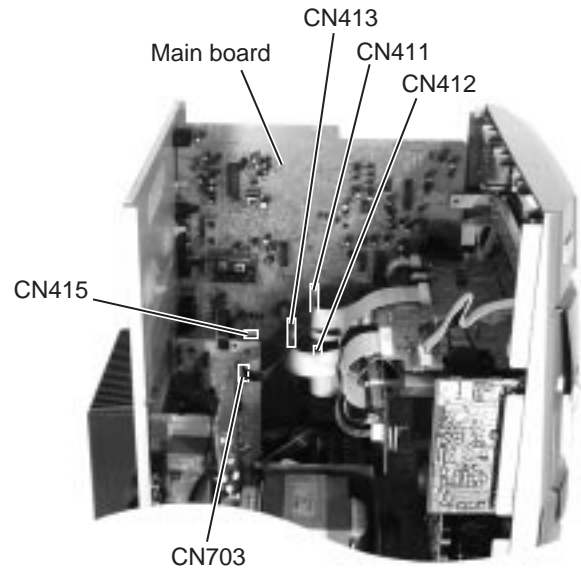

Fig.22
■ Removing the Main Board (See Fig.22 and 23)
■ Removing the Rated Voltage Board and Power Amplifier Board (See Fig.22, 24 and 25)